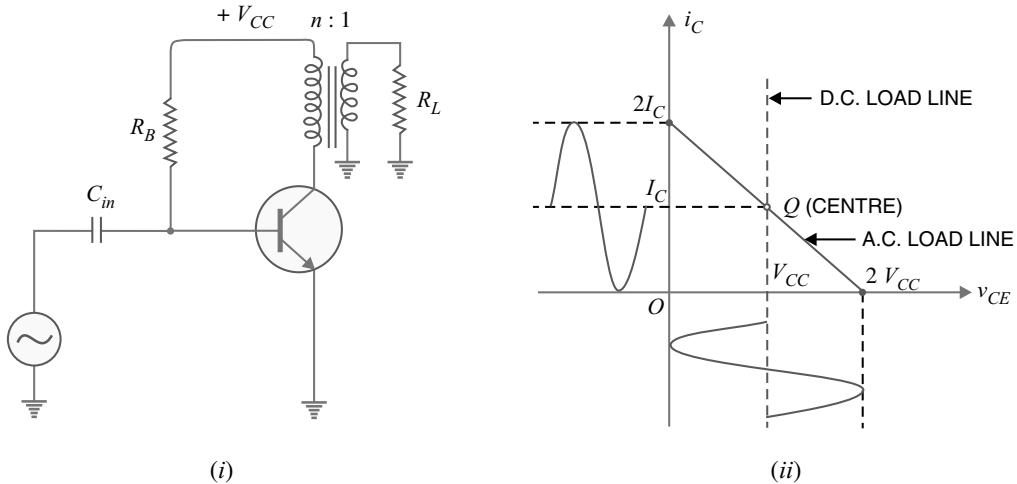

Fig. 10.17
Fig. 10.17 (i) shows the transformer coupled class A power amplifier. In order to determine maximum power efficiency, refer to the output characteristics shown in Fig. 10.17 (ii). Under zero signal conditions, the effective resistance in the collector circuit is that of the primary winding of the transformer. The primary resistance has a very small value and is assumed zero. Therefore, d.c. load line is a vertical line rising from  $V_{CC}$  as shown in Fig. 10.17 (ii). When signal is applied, the collector current will vary about the operating point  $Q$ .
- (i) We have considered that d.c. resistance  $R_p$  of the primary winding is zero *i.e.*  $R_p = 0$ . Therefore, for the circuit shown in Fig. 10.17 (i), the d.c. load  $R_{DC}$  is
Note that slope of the d.c. load line is  $-\infty$ . For this reason, the d.c. load line is straight vertical line from the voltage point  $v_{CE} = V_{CC}$  in Fig. 10.17 (ii). In practice, the primary winding has some resistance, so that the d.c. load line is not vertical.
Therefore, total a.c. load for the circuit shown in Fig. 10.17(i) is